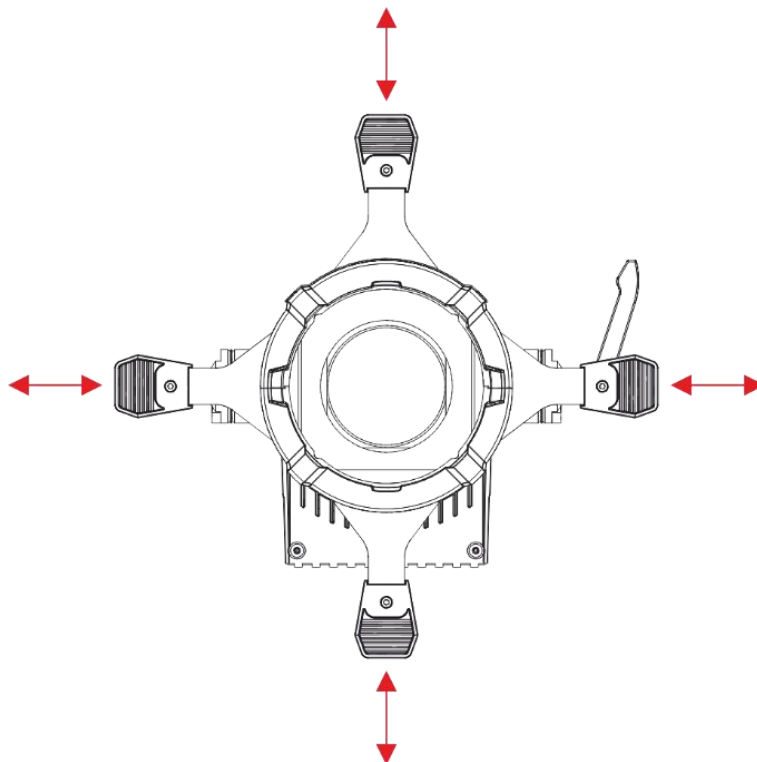

Fig. 11
The beam of the Performer Profile 700 Q6 can be shaped using the 4 included shutters as shown in Fig. 11.
To shape the beam using the **shutters (11)**, follow the steps below (see Fig. 11):
- To make the beam bigger, pull each **shutter (11)** outwards until you have the desired beam size.
- To make the beam smaller, push each **shutter (11)** inwards until you have the desired beam size.